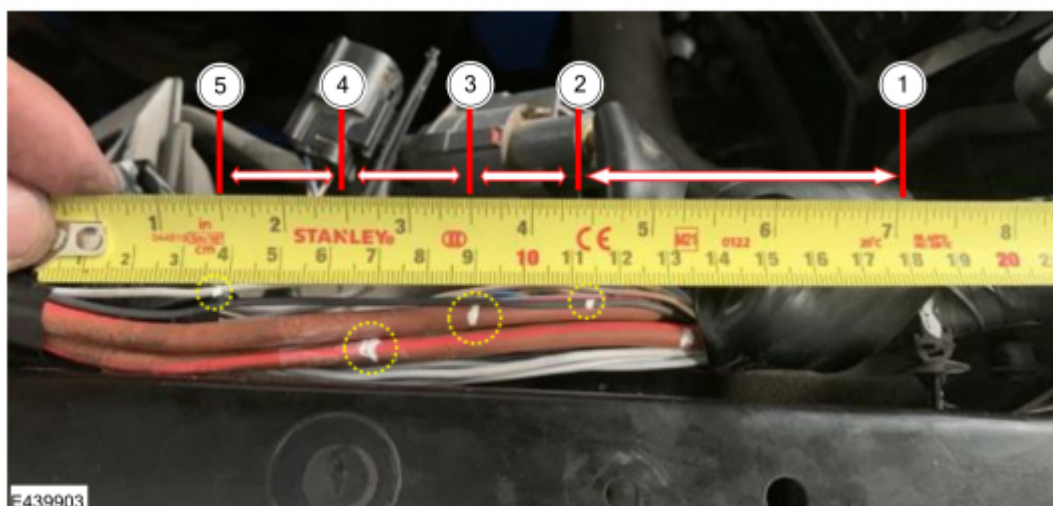

Figure 16
7. Mark and cut the 4 cooling fan wires as per Figure 16 below.